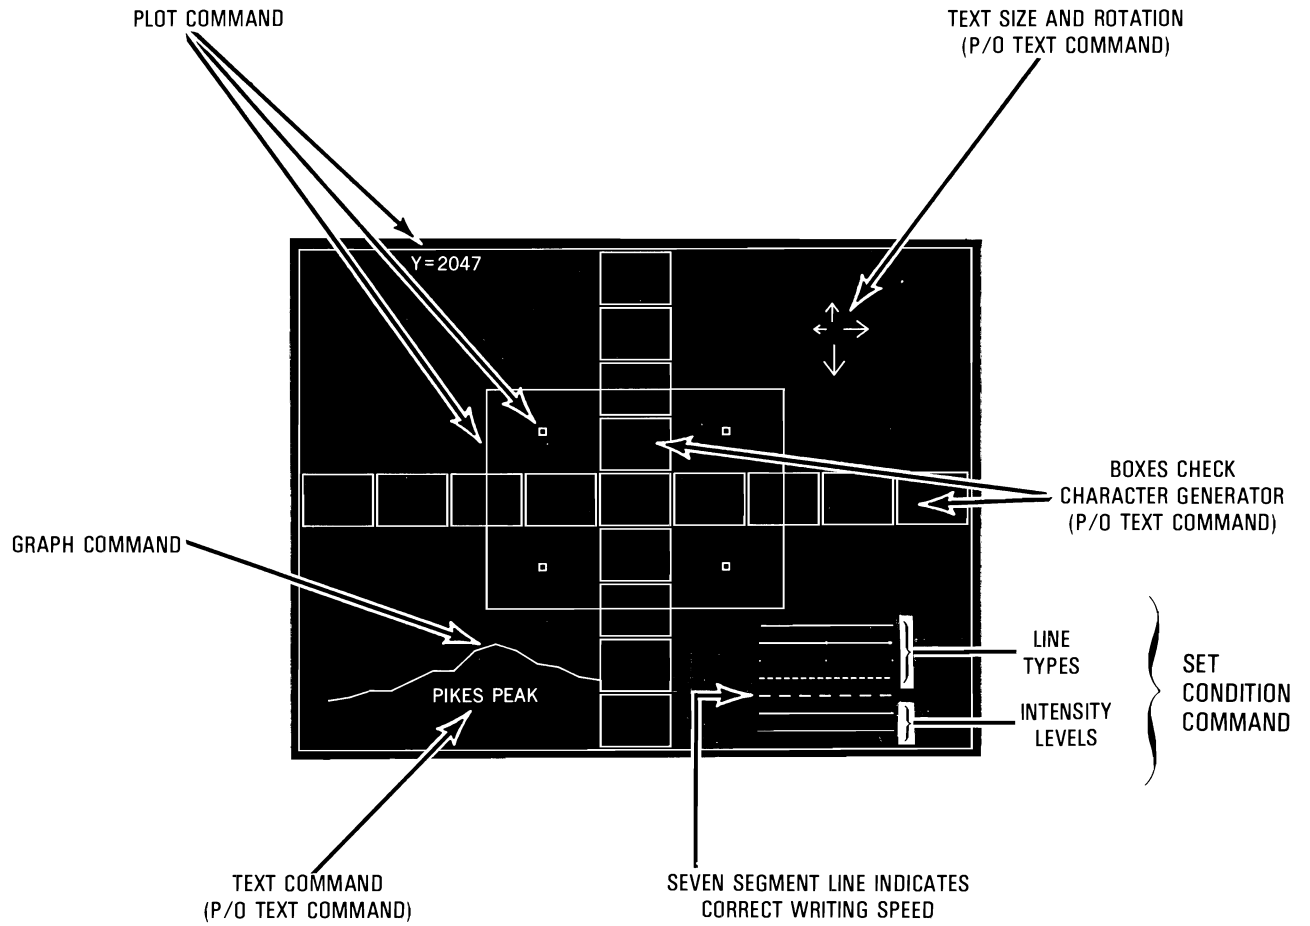

Figure 4-4. 1345A Command Check-out
e. The 1345A cycles through the four Commands: Set Condition, Plot, Graph, and Text Command. The relationship of the test pattern and the 1345A Commands is shown in figure 4-4. If any portion of the test pattern is not displayed, refer to Section VIII, Service and Troubleshooting.